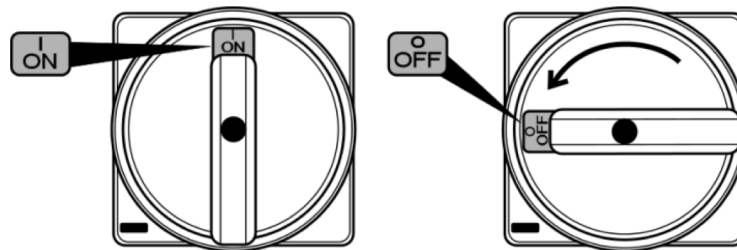

FIG. 6 MEAT SAW GENERAL INTERRUPTER
Another extra device is the General interrupter (42), when is in OFF position, de-energizes the complete equipment even though is connected to the main power source (**See Fig. 6**).